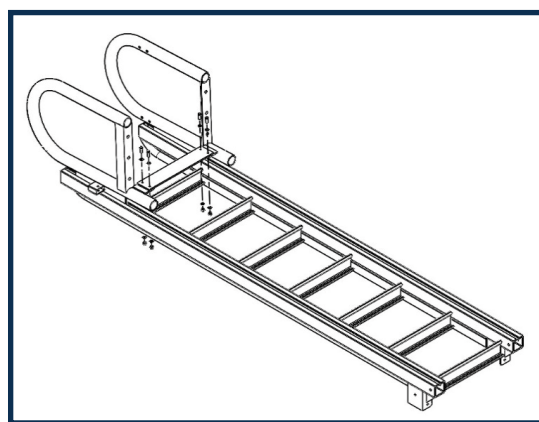

FIGURE 3
- Attach handrail plate onto dock mount arm (R) and dock mount arm (L) using hardware provided in Kit #2 to complete the front plate assembly. See Figure 3.